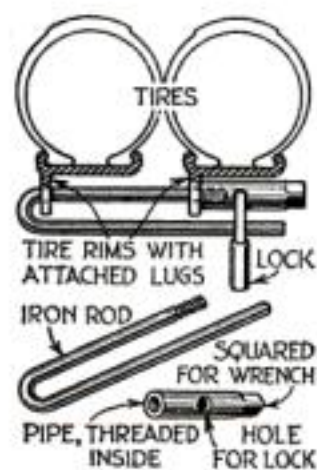

Fig. 6. Two bolts like this, one without the lock, will permit carrying an extra spare tire
**I**F YOUR rims are made with the lugs welded onto them, you can carry an extra spare tire and lock it so it cannot be stolen, by making two bolts as shown in Fig. 6. Only one need be drilled for a padlock, however.